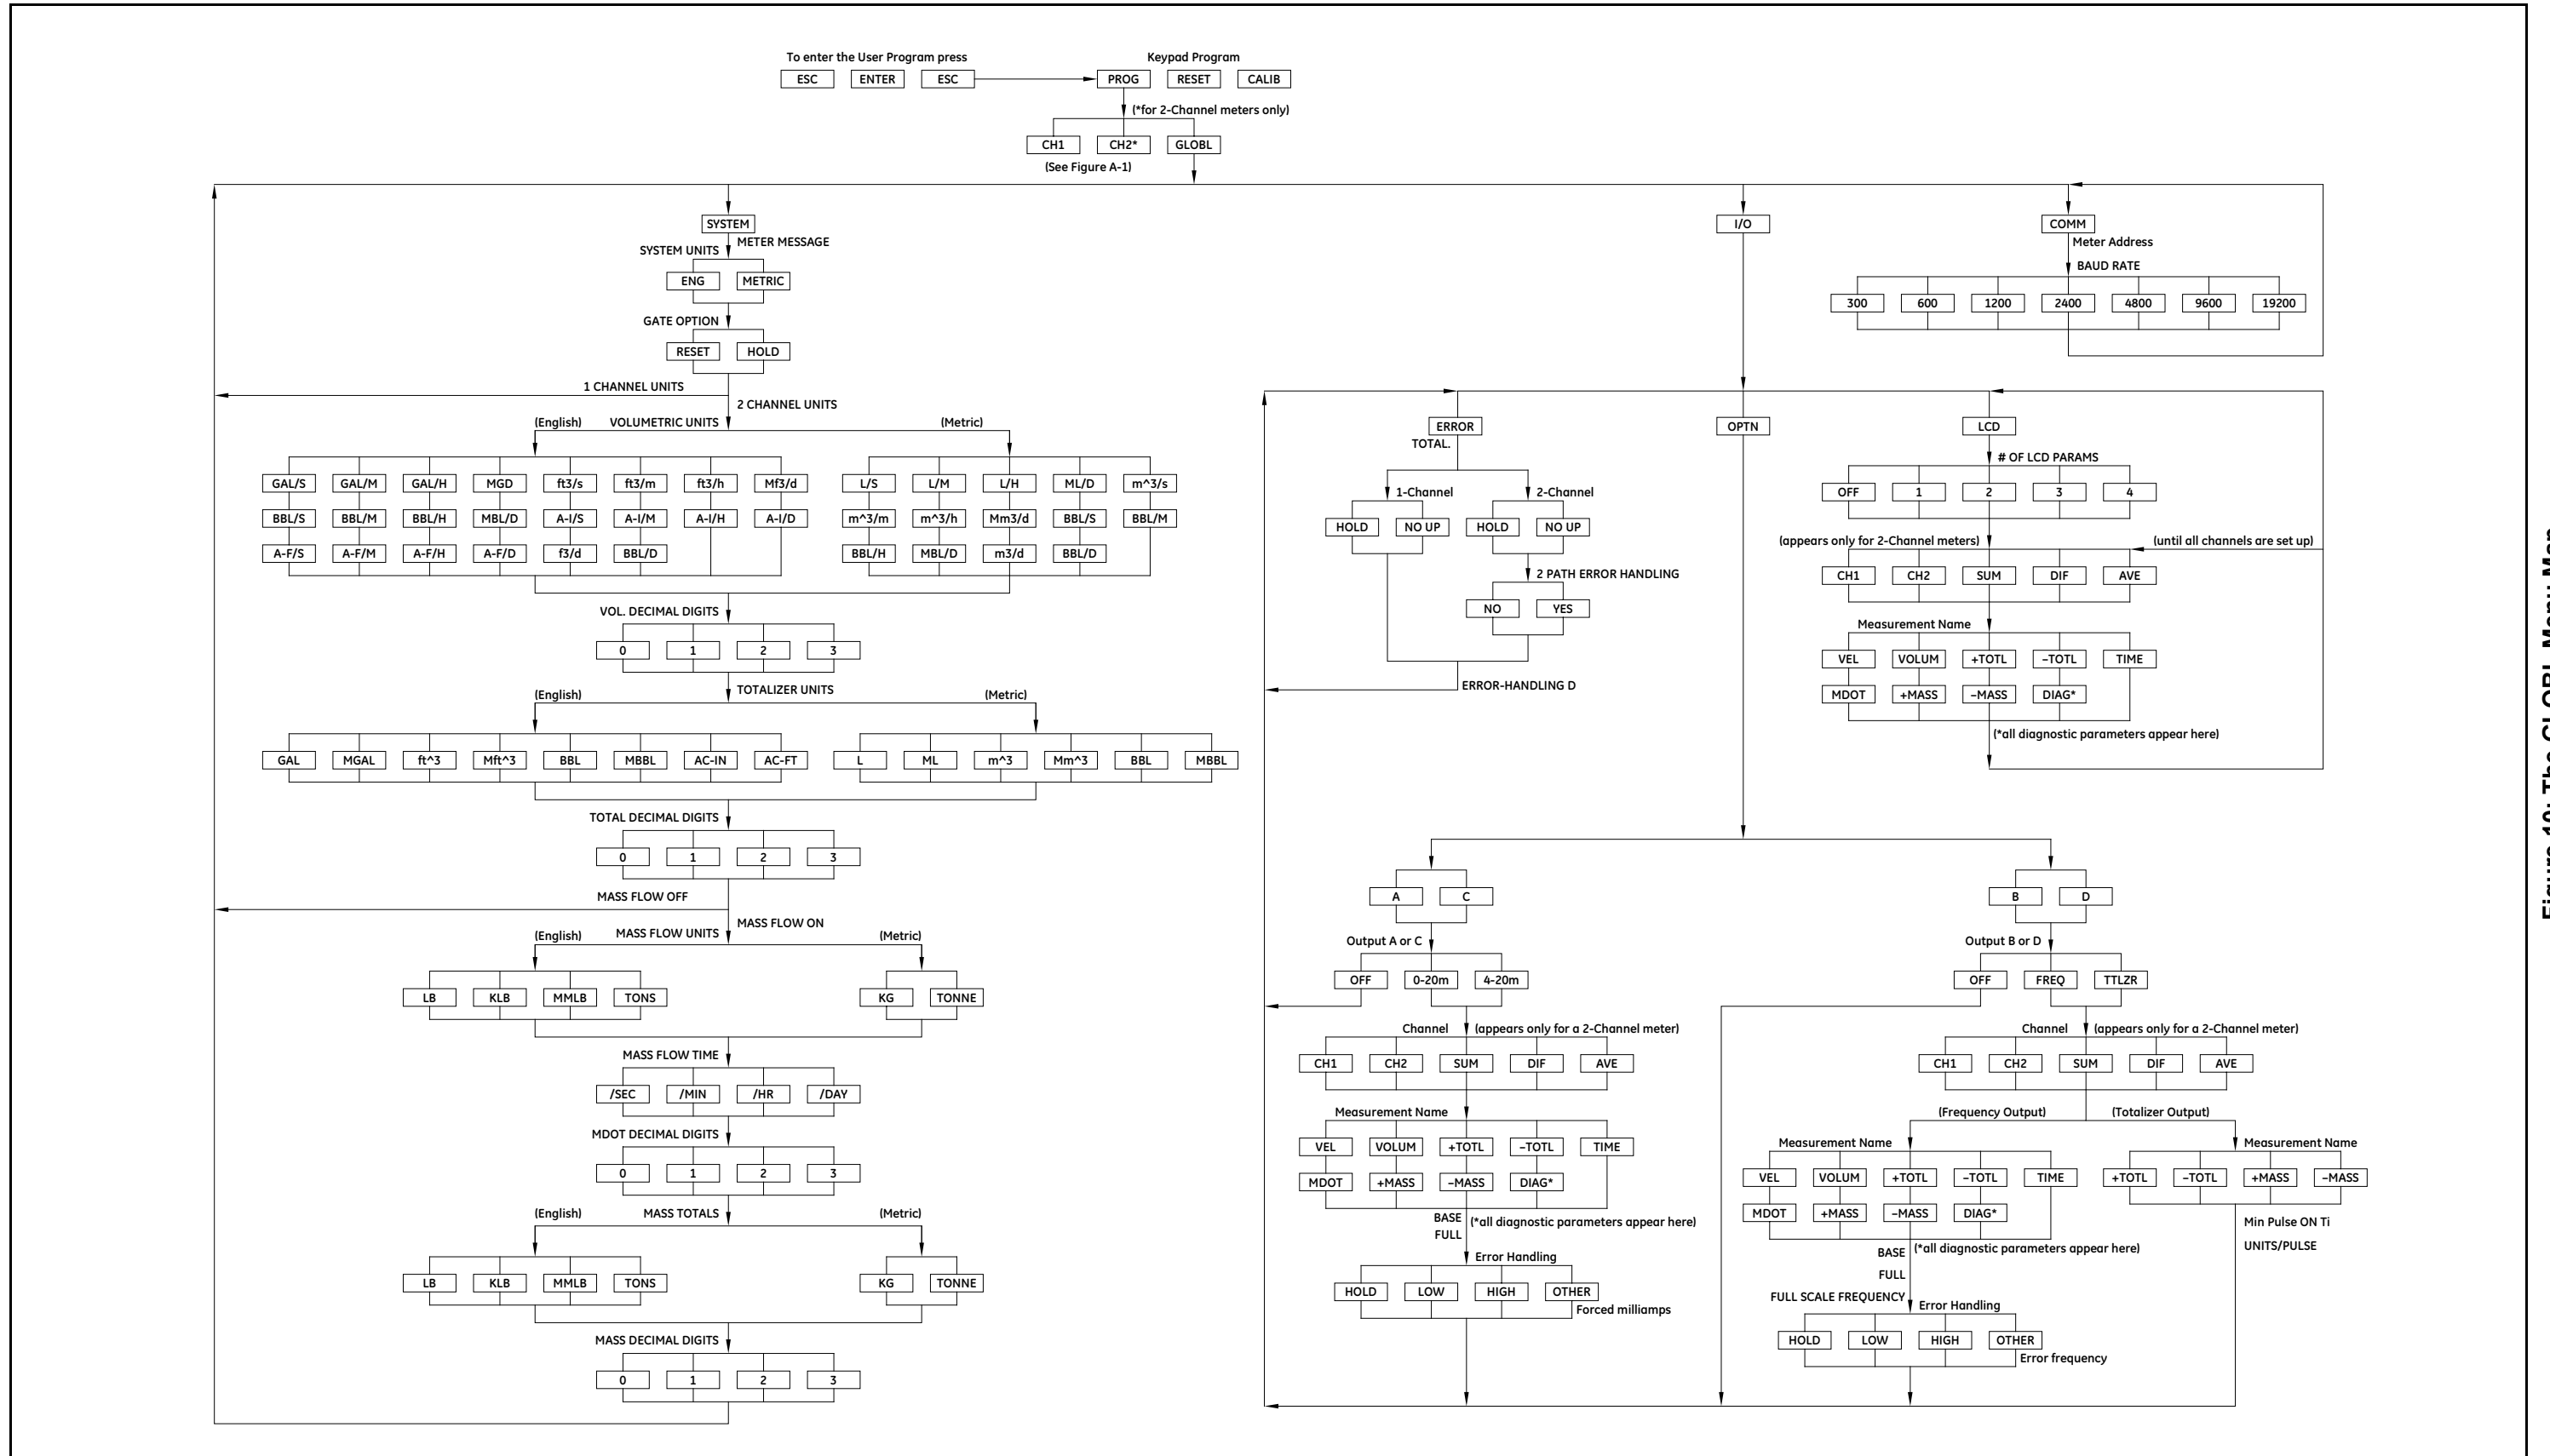

Figure 10: The GLOBL Menu Map
- Figure 10, "The GLOBL Menu Map," on page 86